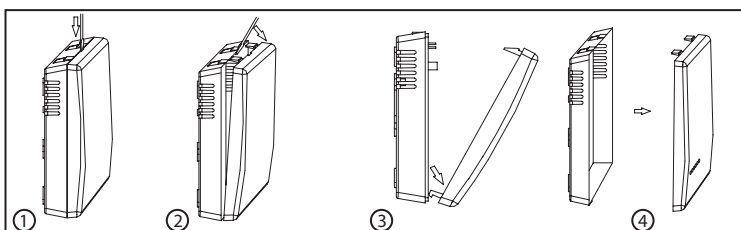

Fig. 3
- Follows the steps in fig. 3 to close the cover.